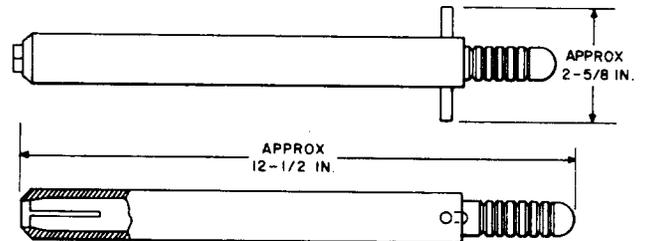

Fig. 11—KS-20141, L1, Extractor
2.12 KS-20141, L1: The KS-20141, L1, extractor (Fig. 11) is used to remove and replace the 51A pads in the L4 Coaxial System.